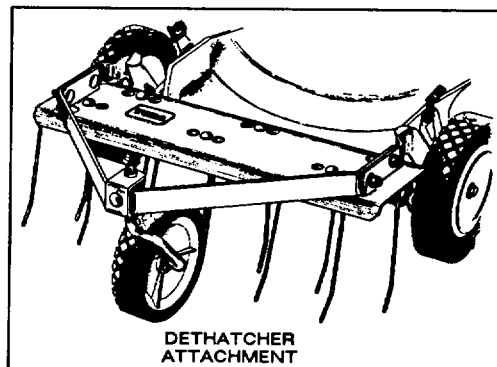

Figure 33
2. Dethatcher Kit, Model No. 59131—Installs in minutes. Front mounted for easy maneuverability. Spring tines loosen thatch for clean vacuuming into grass bag (Fig. 33) and convenient disposal.